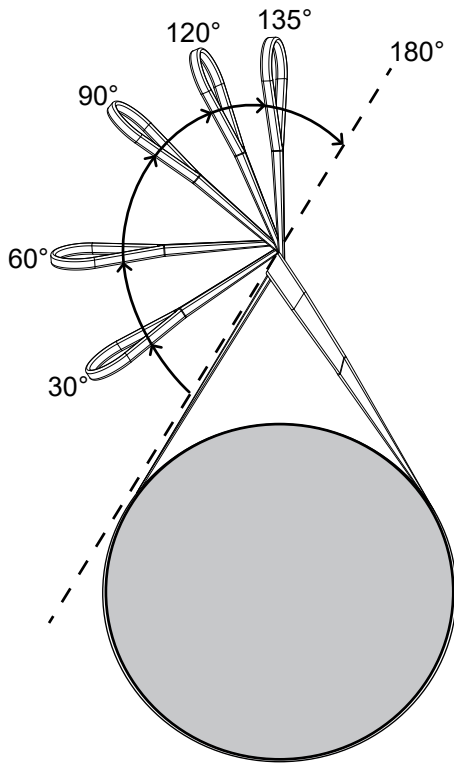

Figure 4. Choke Angle
4. If the choke angle (Figure 4) is 120 degrees or less, the lifting strength of the slings must be de-rated as shown in Table 1, in accordance with ASME Standard B30.9.